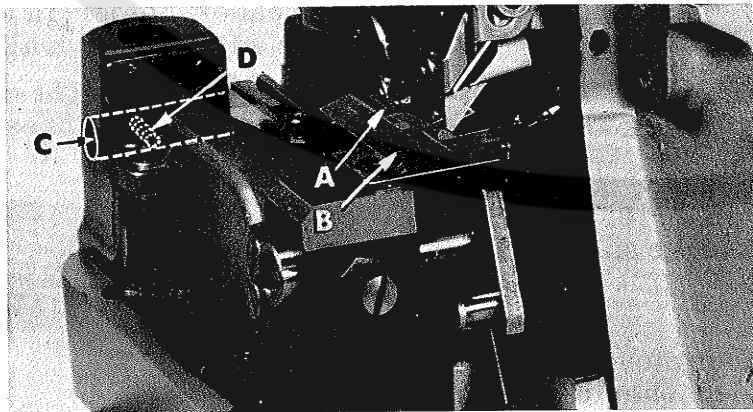

Fig. 13
Assemble chaining feed dog (A, Fig. 13) to main feed dog (B). Main feed dog should be levelled with respect to the throat plate by rotating feed tilting adjusting pin (C). This pin raises or lowers the back end of the